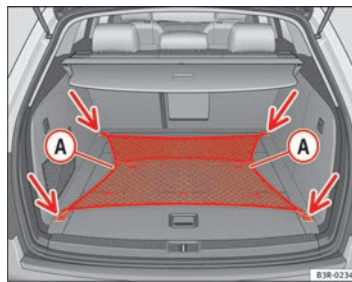

Fig. 118 Stretched luggage net
- Secure the luggage net to the four fastening rings -arrows- ⇒ fig. 118.